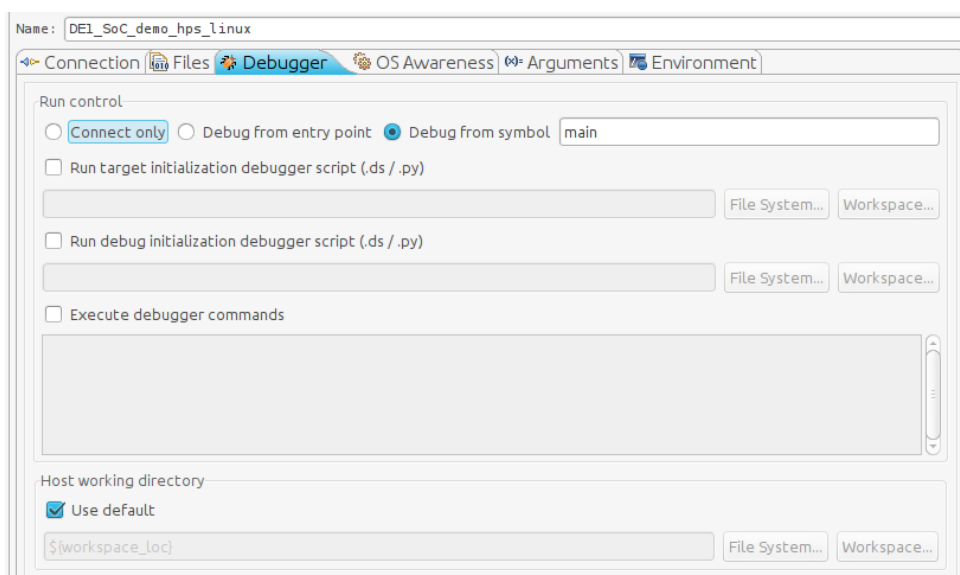

Figure 13-21. Debug Configuration “Debugger” Tab
78. Under the “Debugger” tab, make sure that “Debug from symbol” is selected and that “main” is the name of the symbol, as shown in Figure 13-21.